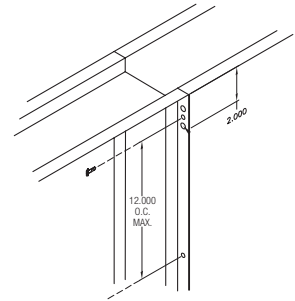

Figure 2
3) Due to shipping constraints, some large damper assemblies may ship in multiple sections and require field assembly. The damper sections must be attached together with #14 sheet metal screws, 1/4 in. (6mm) diameter nuts and bolts, tack or spot welds, or 3/16 in. (4mm) diameter steel pop rivets. Attachments must be spaced a maximum of 12 in. (305mm) on center and a maximum of 2 in. (51mm) from corners. Attachments must be made on front face and back face (air entering and air exiting side) of damper sections. **Figure 2**